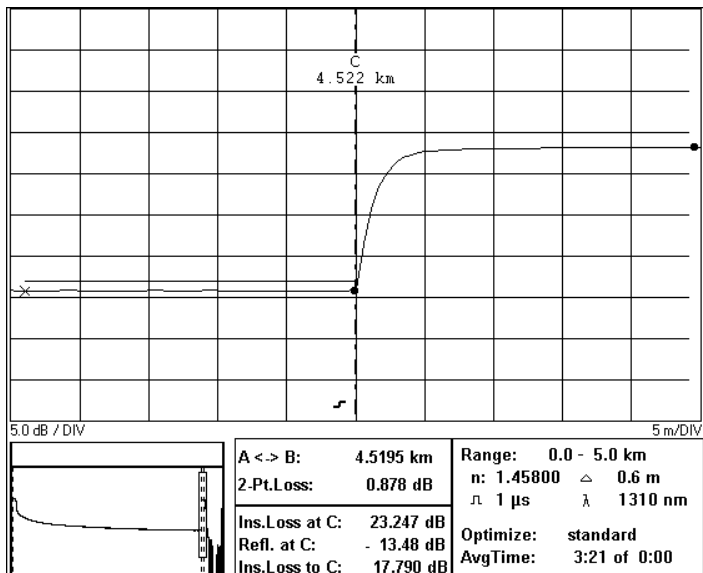

Figure D-18
18 Position the X as far as possible to the left of the rising edge, but so that it is still displayed on the screen. See Figure D-18.
See Figure D-18.
- 20** Position the X as far as possible after the rising edge, but ensure, that it is before the falling edge and that it is still displayed on the screen. See Figure D-18.